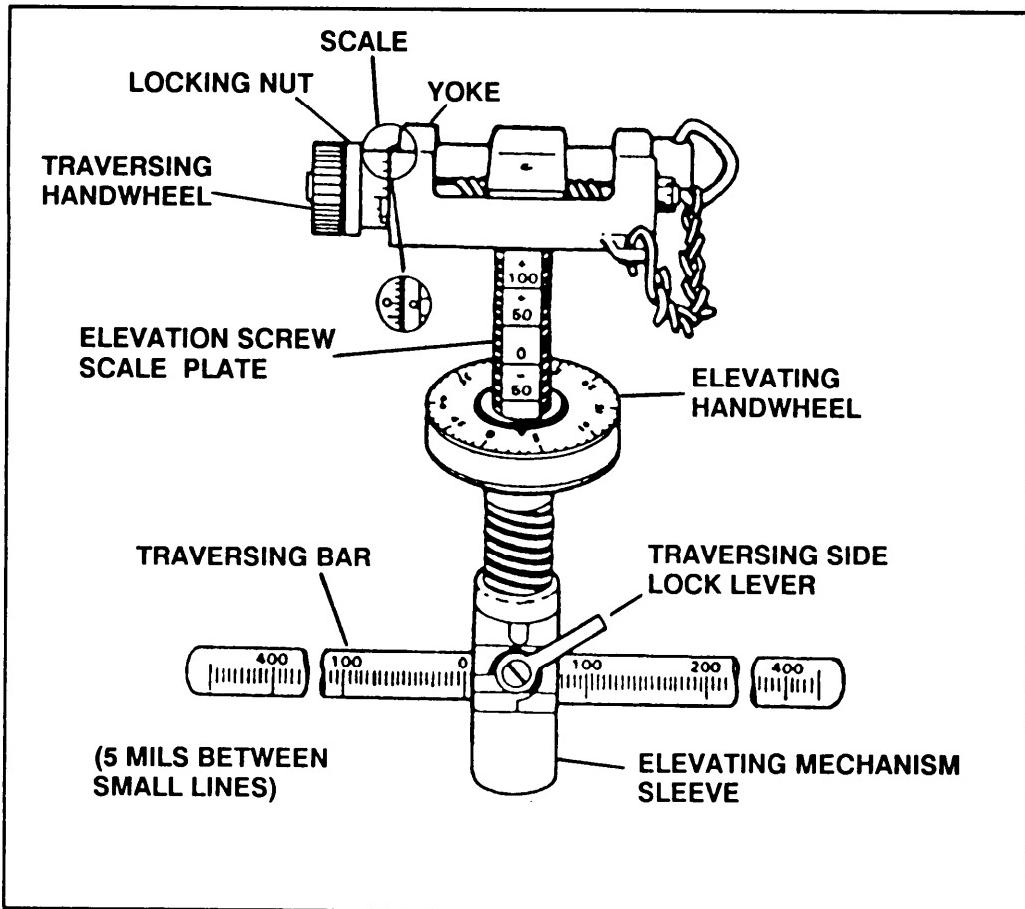

Figure 5-8. Traversing and elevating mechanism.
(1) Setting ranges on the rear sight is a simple but important task. The gunner just has to rotate the elevating screw knob in a clockwise manner to move the peep sight up or counterclockwise to move it down. The range scale on the left is graduated in mils and the scale on the right in yards. The gunner must align the hairline index of the peep sight with the scale index line at the desired range as quickly and accurately as possible.
(2) Laying is placing the barrel of the weapon on a direct line with the target, using the sights. This must also be done as quickly and accurately as possible.
(3) The range setting and laying exercises are designed to require the gunner to practice and the instructor to evaluate both correct sight alignments and correct placements of aiming points. The exercise starts with the gunner in the sitting firing position with rear sight down. The coach will announce a range and general aiming point. The gunner will then repeat the range and direction of target. The coach will then announce, "Begin." The gunner will then raise and set his sights, and align the weapon on the aim point. When the gunner completes this task, he will announce "Up." The coach will then get behind the weapon and check the range setting and aim point and critique the gunner on his findings. This exercise will be continued until speed and accuracy is obtained.
c. Traversing and Elevating Mechanism. Manipulation of the T&E mechanism (Figure 5-8) is another key factor in effectively engaging targets. The gunner is taught how to instinctively manipulate the T&E mechanism to shift from one target to another. The gunners are trained to use the traversing handwheel, the traversing slide lock, and the elevating handwheel.
(1) The traversing mechanism consists of a traversing handwheel, locking nut, scale, and yoke. The T&E mechanism is attached to the traversing bar of the M3 bipod.